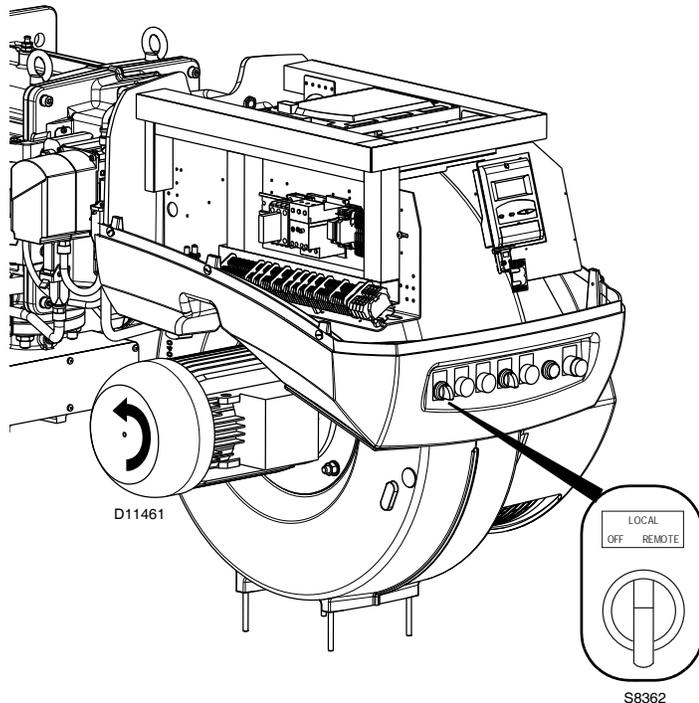

Fig. 37
Turn the switch to position “**LOCAL**”. (Fig. 37).
When the burner starts, check the direction of the motor rotation, as indicated in Fig. 37.
- place the switch of Fig. 37 in position “**OFF**” and wait for the control box to carry out the switch-off phase;